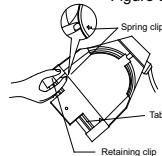

Figure 4
1. Position the fixture with the front of the unit (the lens side) facing you, and tilted slightly(**Figure 4**).
5. Press the spring clip with your finger to release the lens(**Figure 4**).